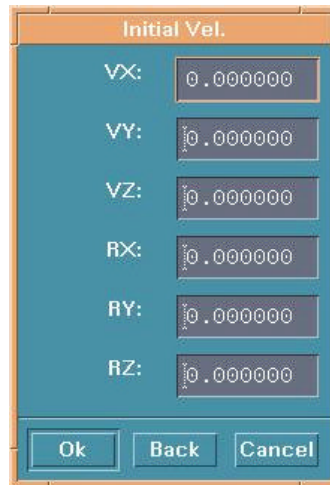

Figure 6.6.11 Velocity Define Table
- Enter the initial velocity in the INTIAL VELOCITY dialog window, Figure 6.6.11.